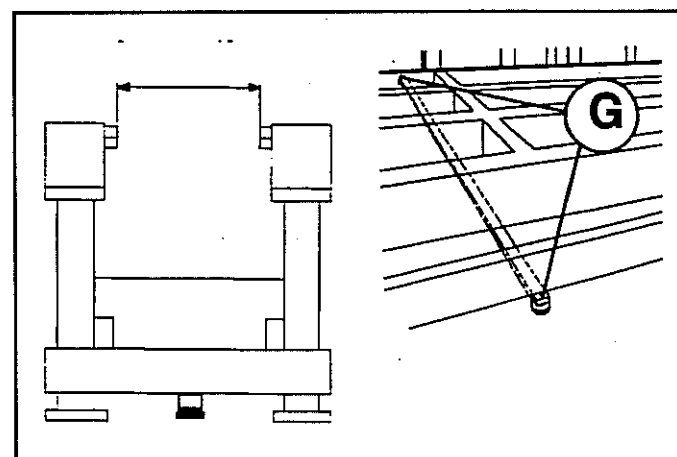

Fig.2.13
- 7- Check the distance and the parallelism of the racks between the two longerons. In order to do this, adjust the two central grub screws (G fig.2.13) of the frame until the distance given in the testing sheet is obtained.